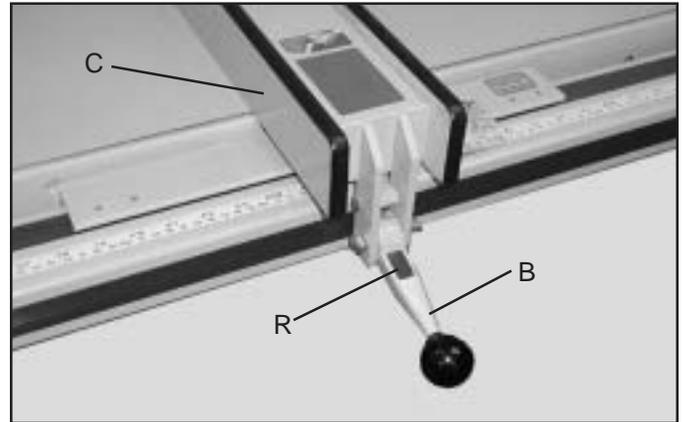

Fig. 28
5. When the fence locking handle (B) Fig. 28, is pushed to the down position, the fence assembly (C) should be completely clamped to the guide tube. If the fence assembly (C) is not completely clamped to the guide tube when the handle is pushed down, as shown, lift up handle (B) and raise fence off the guide tube as shown in Fig. 27. Slightly tighten the two adjusting (J) and (K) (if the fence is too loose) or loosen (if the fence is too tight), using a 3/16" Allen wrench (N), not supplied. **NOTE: Screws (J) and (K) should be tightened or loosened an equal amount.** Replace the fence back on the guide tube and recheck to see if the fence assembly is completely tightened to the guide tube with the locking handle (B) pushed down. Adjust further if necessary.
7. To move the fence along the guide tube, simply lift up the locking handle (B) Fig. 30, as shown, slide the fence to the desired position on the guide, and push down locking handle (B) Fig. 28 as shown, to lock in position. **NOTE:** A magnet (R) Fig. 28, is provided to hold the handle in the up position when moving the fence.